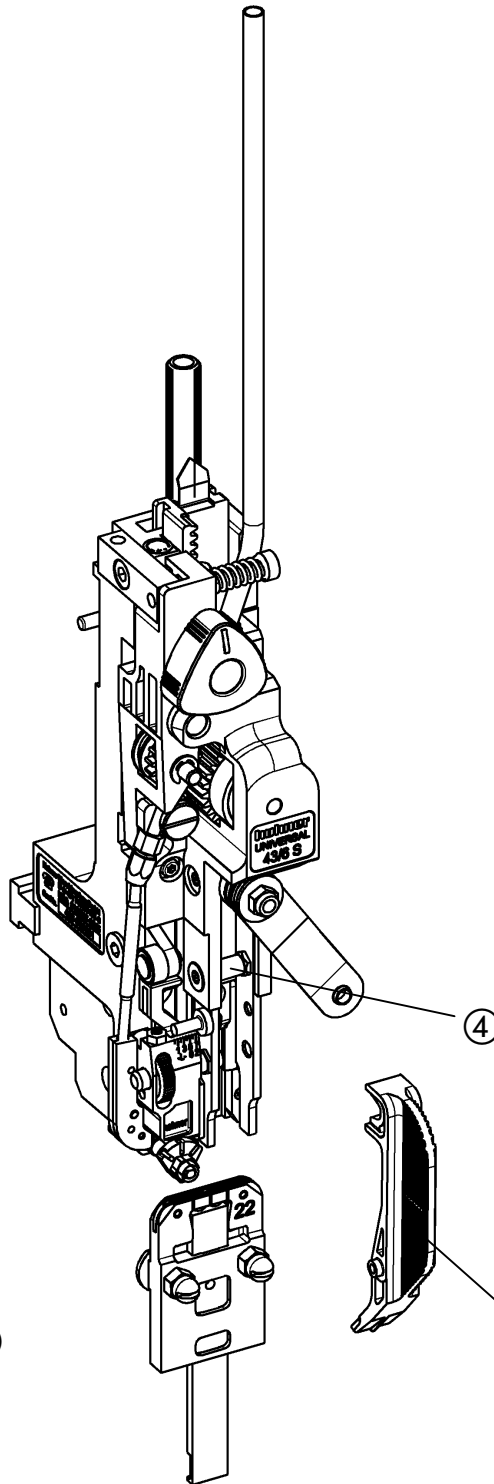
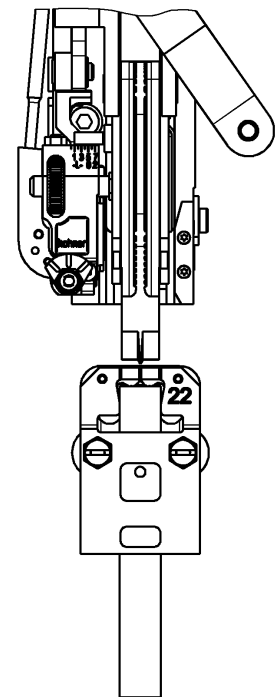

Fig. 8b
Fig. 8c
- Fig. 8b, Fig. 8c -
- Remove former (see 4.2.1). Place gauge ③ on former locating pin ④ and turn downward against stopper. The clincher box can be precisely aligned by aligning the gauge with the scale graduation marks.
- Tighten clamping nut ① and remove gauge ③. Fit in former.